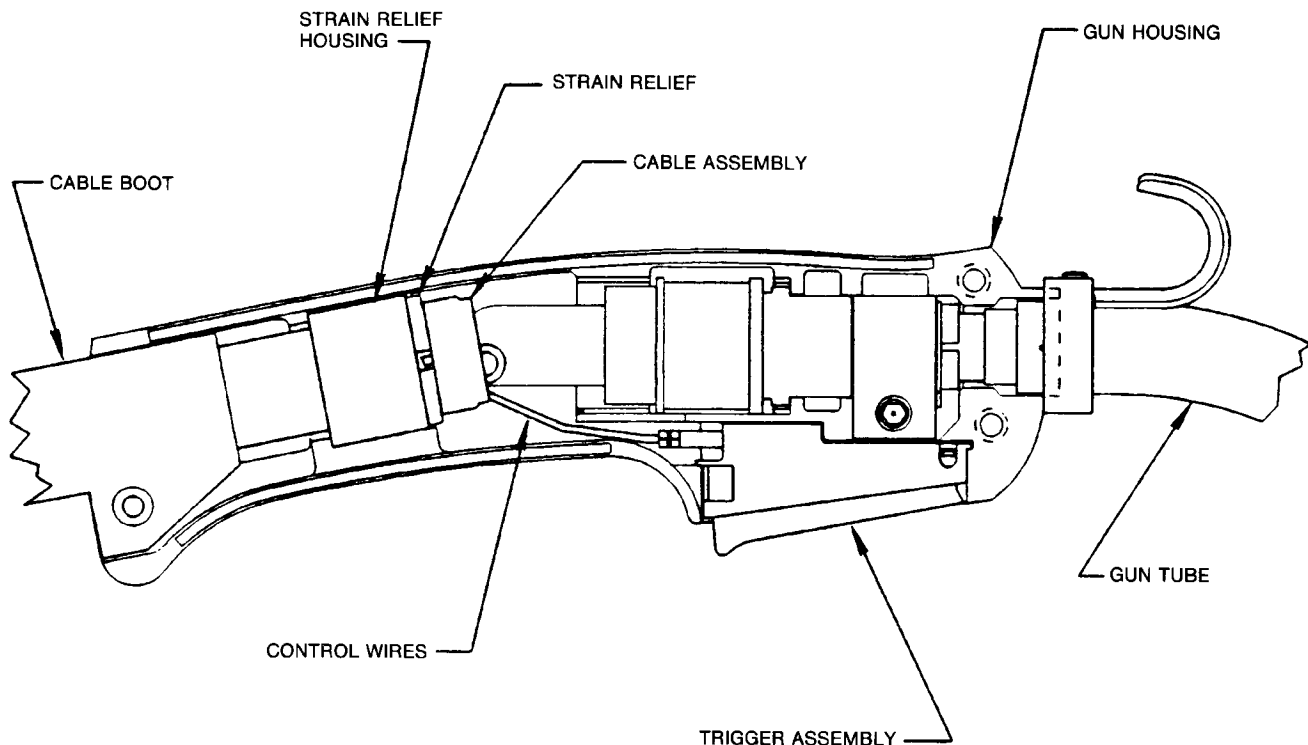

Figure 4
- j. Assemble cable in left side of gun handle. Assemble trigger into the proper handle cavity. Assemble right side of gun handle and tighten the three screws that hold the handle together. Refer to Figure 4.